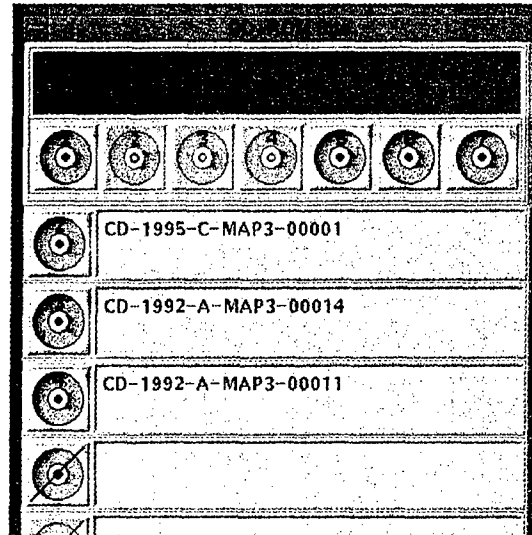

Fig. 82 — CD-ROM Site Window: titles listed for selected CD readers
- 4) Select Scan Readers (in the lower-left corner of the window); MMC will list the titles of the CDs on the selected readers (Fig. 82).